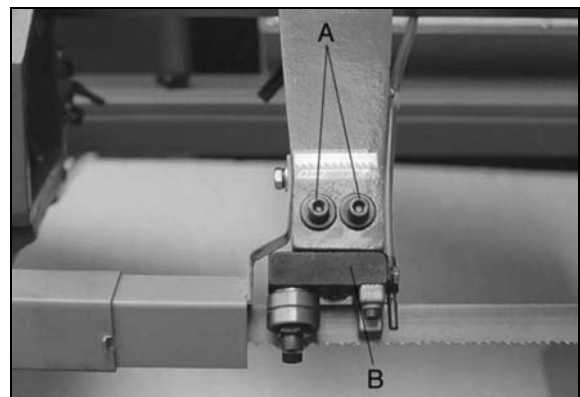

Fig. 8
2. Loosen two hex socket cap screws (A-Fig.8).
3. Move guide seat (B – Fig.8) up or down until a clearance of 0.003" to 0.005" between back of blade and thrust roller is obtained.
4. Tighten two hex socket cap screws (A – Fig.8).